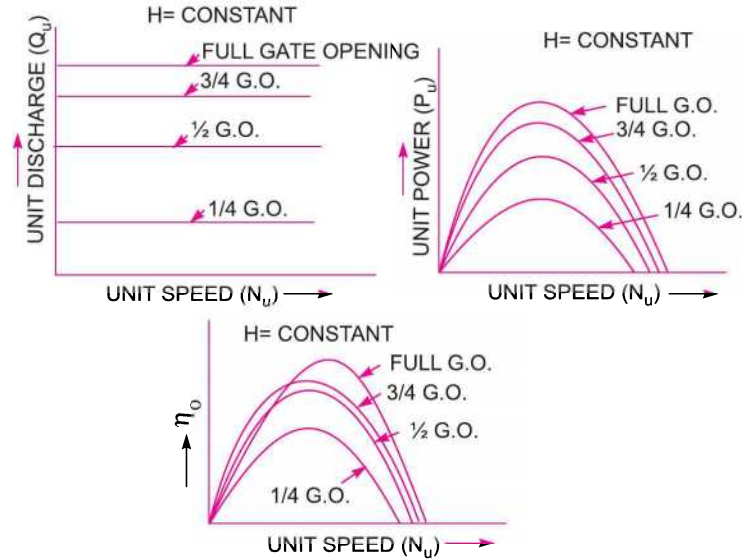

Fig. 18.35 Main characteristic curves for a Pelton wheel.
**18.13.1 Main Characteristic Curves or Constant Head Curves.** Main characteristic curves are obtained by maintaining a constant head and a constant gate opening (G.O.) on the turbine. The speed of the turbine is varied by changing load on the turbine. For each value of the speed, the corresponding values of the power ( $P$ ) and discharge ( $Q$ ) are obtained. Then the overall efficiency ( $\eta_o$ ) for each value of the speed is calculated. From these readings the values of unit speed ( $N_u$ ), unit power ( $P_u$ ) and unit discharge ( $Q_u$ ) are determined. Taking  $N_u$  as abscissa, the values of  $Q_u, P_u, P$  and  $\eta_o$  are plotted as shown in Figs. 18.35 and 18.36. By changing the gate opening, the values of  $Q_u, P_u$  and  $\eta_o$  and  $N_u$  are determined and taking  $N_u$  as abscissa, the values of  $Q_u, P_u$  and  $\eta_o$  are plotted. Fig. 18.35